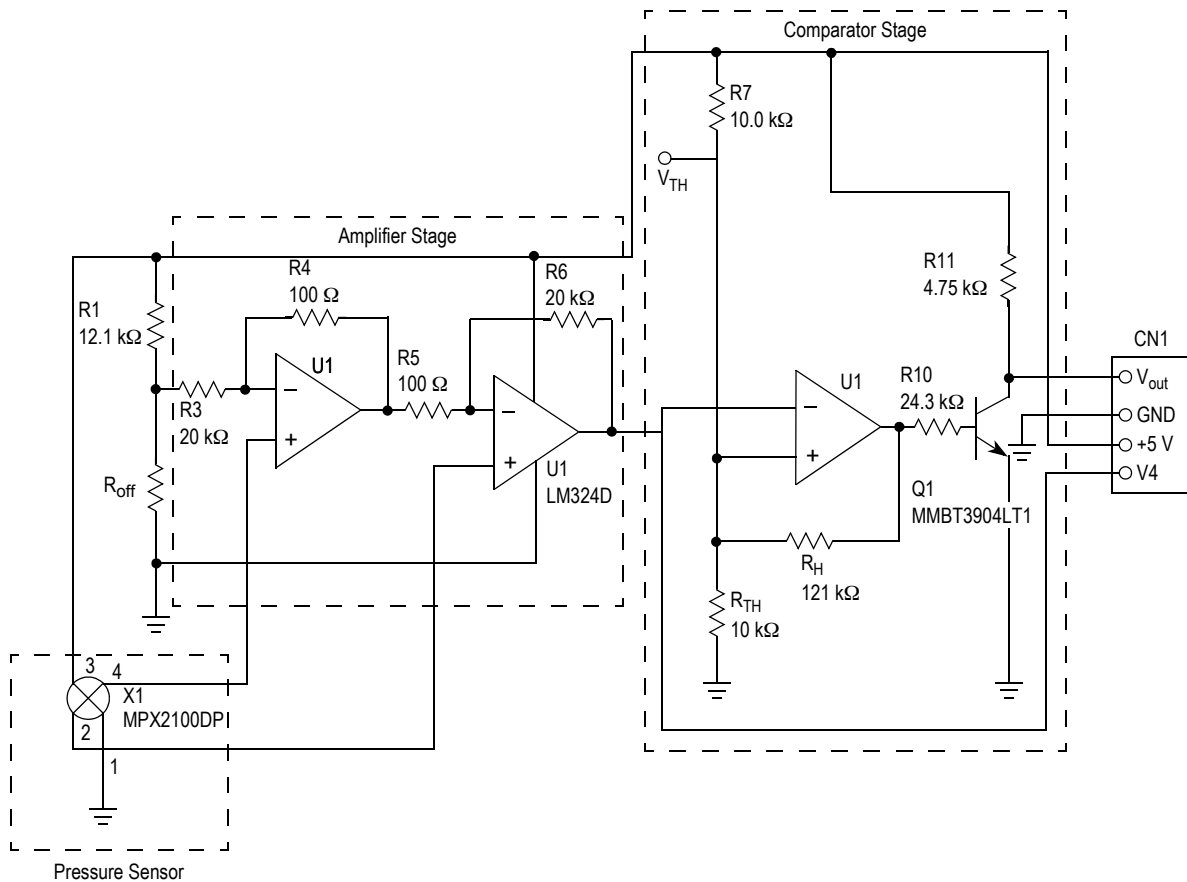
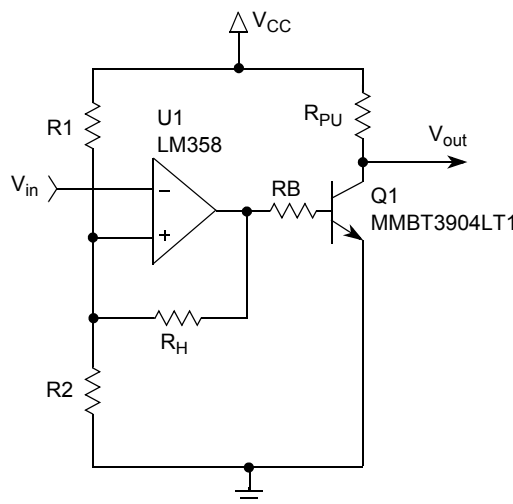

Figure 1. Pressure Switch Schematic
Figure 5. LM358 with a Transistor Output Stage Comparator Circuit Schematic
The amplifier circuitry, shown in Figure 1, is composed of two op-amps. This interface circuit has a much lower component count than conventional quad op amp instrumentation amplifiers. The two op amp design offers the high input impedance, low output impedance, and high gain desired for a transducer interface, while performing a differential to single-ended conversion. The gain is set by the following equation:
- The threshold for which the output switches must be programmable. The threshold is easily set by dividing the supply voltage with resistors $R7$ and R_{TH} . In Figure 1, the threshold is set at 2.5 V for $R7 = R_{\text{TH}} = 10 \text{ k}\Omega$.
The LM358 with a transistor output stage is shown in Figure 5. This circuit has similar performance to the LM311 comparator: its output reaches the upper rail and its switching speed is comparable to the LM311's. This enhanced performance does, however, require an additional transistor and base resistor. Referring to Figure 1, note that this comparator topology was chosen for the pressure switch design. The LM324 is a quad op amp that has equivalent amplifier characteristics to the LM358.
Like the other two circuits, this comparator circuit can be designed with the same equations and procedure. The values for R_B and R_{PU} are chosen to give a 5:1 ratio in Q1's collector current to its base current, in order to insure that Q1 is well-saturated (V_{OUT} can pull down very close to ground when Q1 is on). Once the 5:1 ratio is chosen, the actual resistance values determine the desired switching speed for turning Q1 on and off. Also, R_{PU} limits the collector current to be within the maximum specification for the given transistor (see example values in Figure 1). Unlike the other two circuits, this circuit is positive logic due to the additional inversion created at the output transistor stage.